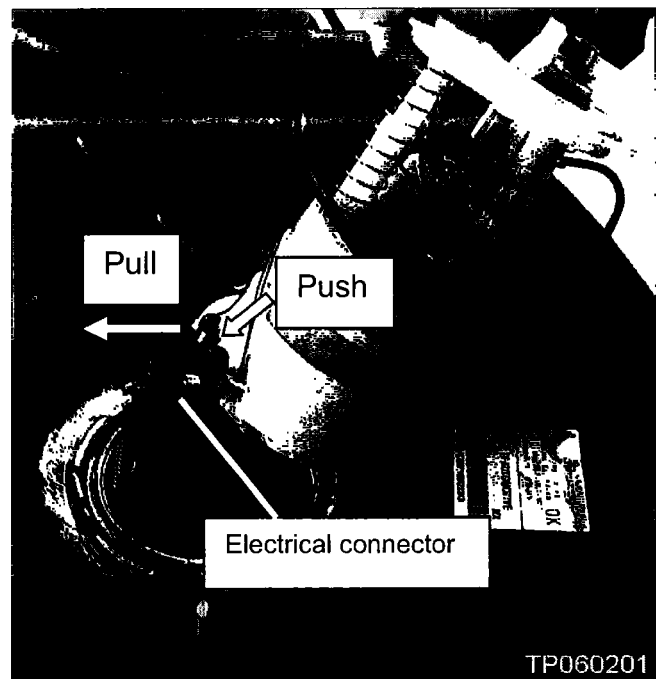

Figure 38
33. Disconnect the electrical connector shown in Figure 38.